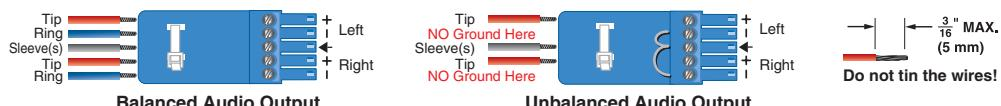

Figure 6. Audio Output Captive Screw Connector Wiring
- M Audio loop output** — Connect a balanced or unbalanced stereo line level audio device to this 5-pole, 3.5 mm captive screw port. Wire the connector as shown in figure 6. Audio is always from audio input (**G**).
O **Analog audio output** — Connect a balanced or unbalanced stereo line level audio device to this 5-pole 3.5 mm captive screw port (see figure 6 on page 17 for wiring information) for select audio output.